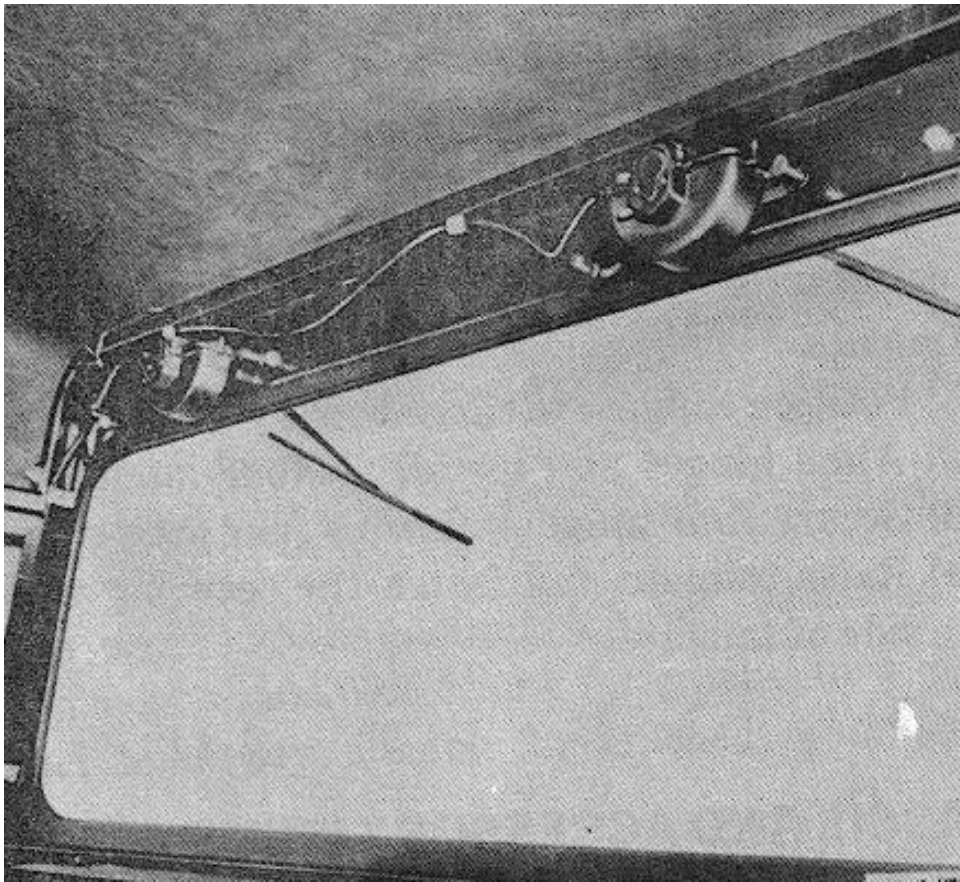

Figure 2-106. Vacuum windshield wipers.
- c. Two vacuum windshield wiper motors and wipers (fig 2-106) are mounted at the top of the windshield. Both wipers can be turned on and their speed adjusted by the windshield wiper control at the upper left corner of the windshield. Each wiper blade can be operated manually by means of a lever located on each motor.